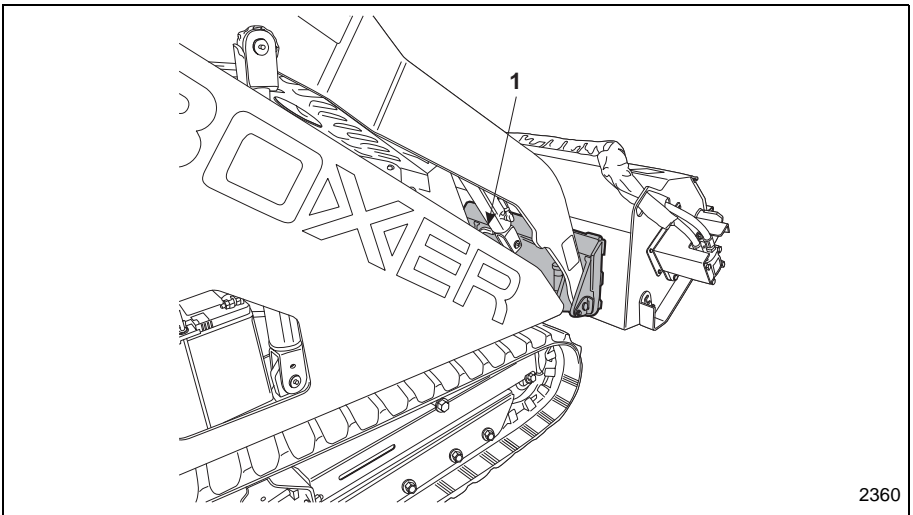

Figure 4 Hydraulically Powered Attachment Installed
4. When the machine's mounting plate top edge is seated in the attachment mounting plate, curl the machine's mounting plate backwards slightly to allow the lower edge of the machine's mounting plate to slide into position. See Figure 4.
6. Rotate the attachment lock pins (Item 1, Figure 4) into the locked position securing the attachment to the machine.